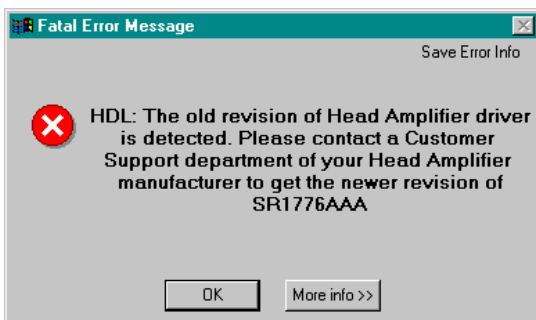

Figure 1: Error Message: *Old Revision of Head Amplifier Driver is Detected*
In WITE32 version 3.20, the Guzik head amplifier and head stack driver revisions are updated from 3.xx to 4.xx, where xx is a two-digit number. If WITE32 version 3.20 detects a head amplifier or a head stack driver with revision 3.xx, it displays an error message (see Figure 1). When you install the WITE32 version 3.20, the Guzik drivers with updated revision numbers automatically substitute the Guzik drivers with the revisions 3.xx. The driver replacement does not require any additional actions except the cases described below:
- If WITE32 displays the error message (see Figure 1) “*HDL: The old revision of Head Amplifier driver is detected. Please contact a Customer Support department of your Head Amplifier manufacturer to get the newer revision of <driver name>*”, you must contact the driver manufacturer and request the driver with the updated revision number.